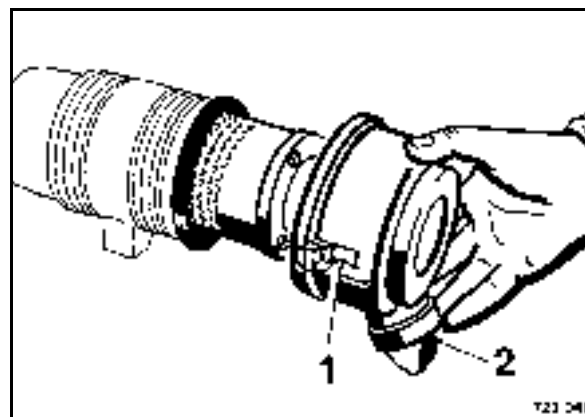

Fig. 136
- Open both clamps 1 (Fig. 136).
- Clean filter hood and dust discharge valve (2).